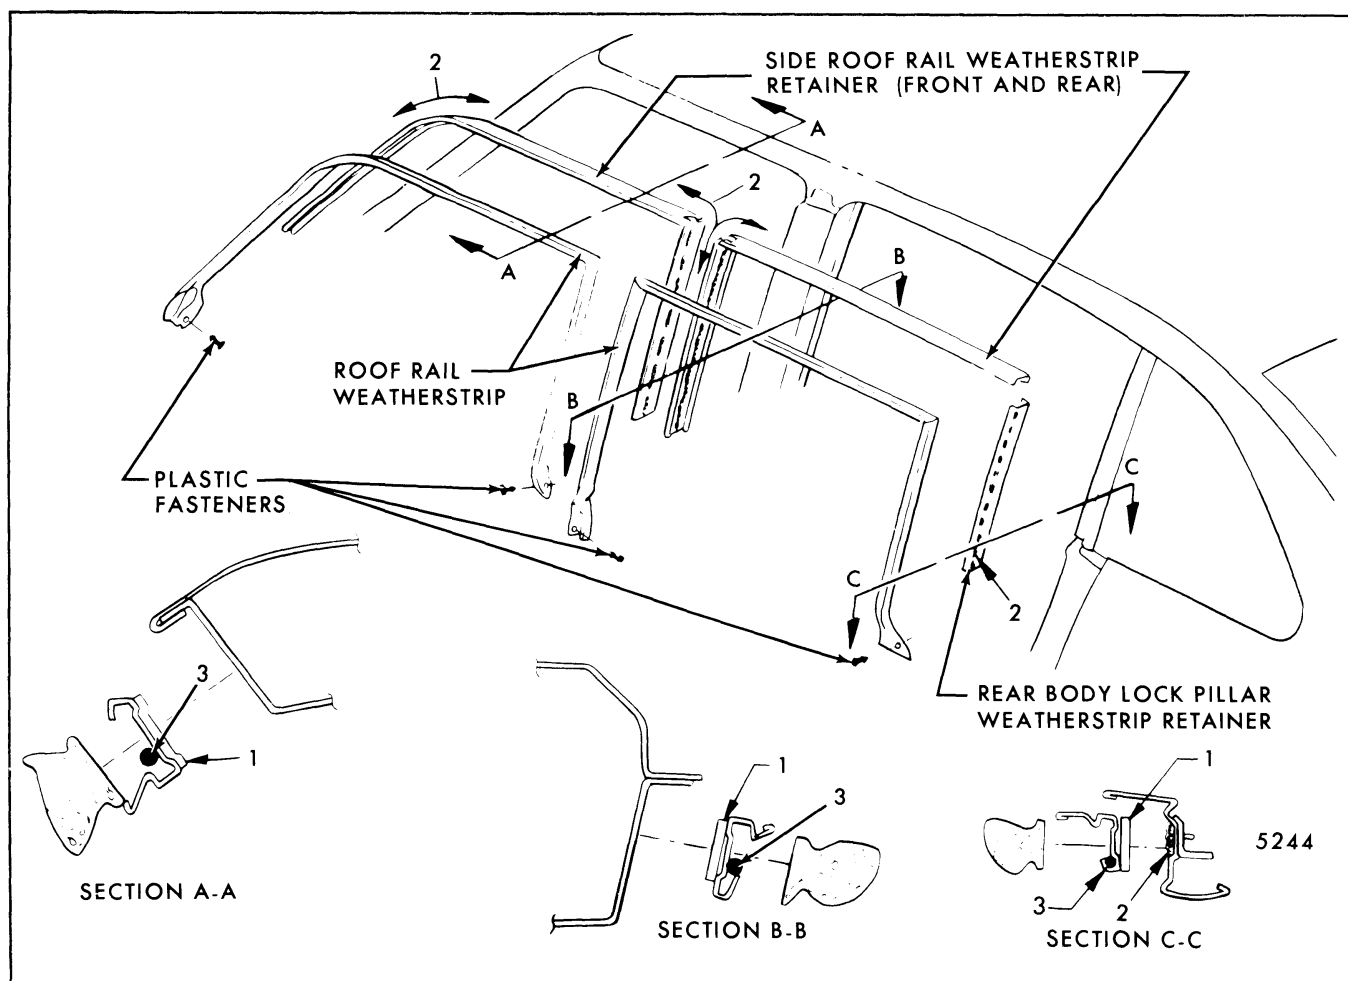

Fig. 5-25-Side Roof Rail Weatherstrip and Weatherstrip Retainer - "A" Four-Door Styles Shown, Other Styles Similar
The side roof rail weatherstrip is sealed to a side roof rail weatherstrip retainer, (front and rear) which, in turn is secured with plastic fasteners at the front and rear edges, except on "B, C and E" two-door hardtop styles. The sealer that retains the weatherstrip also protects against air noise and water entry between the retainer and weatherstrip. An integral section of closed cell nitrile foam material bonded to the weatherstrip retainers during retainer manufacture prevents water entry between the retainer and side roof rail or body lock pillar above belt (Item 1, Fig. 5-25).
**NOTE:** Major retainer adjustments will require resealing retainer to body at upper corners of retainer(s), and full length of rear body lock pillar retainer on "A" four-door styles, as described in Step 2 of weatherstrip installation procedure ("2", Fig. 5-25).
1. Remove plastic fasteners at front and rear of side roof rail weatherstrip (Fig. 5-25 is typical of all styles at front hinge pillar) with tool J-21104 or equivalent.
2. Apply a continuous bead of a "pumpable" type body caulking compound 4" rearward and 4" down from front and rear upper corner of retainer that mates with side roof rail, and along full length of rear body lock pillar retainer on "A" four-door styles ("2", Fig. 5-25). Apply bead outboard of attaching screw holes.
4. Apply a continuous bead of "pumpable" sealer to inboard flange of weatherstrip retainer ("3", Fig. 5-25). Then, apply black weatherstrip adhesive to the front and rear end details of the side roof rail weatherstrip.
5. Position front end of weatherstrip to body and install plastic fasteners. Then, using a flat-bladed tool, engage weatherstrip with retainer, inboard lip first, then, outboard lip (refer to Sections "A-A", "B-B" and "C-C", Fig. 5-25).